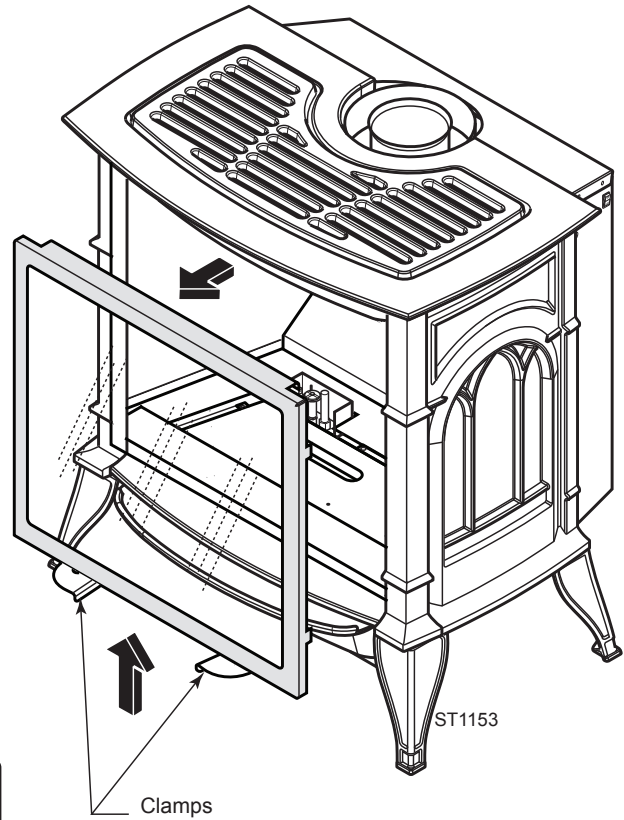

Figure 51 - Remove Glass Frame
3. Remove glass from stove by releasing two clamps on bottom of stove. Lift glass frame up and off the unit. *Figure 51*